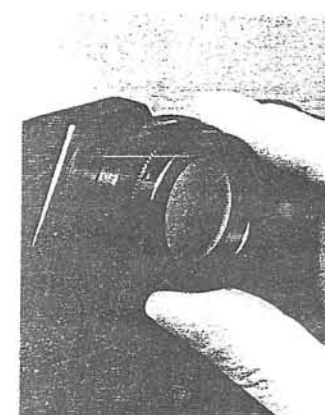

Fig. 32
2. Make diopter compensation. Cross hairs are seen through the viewfinder of the film camera. Turn the diopter compensation ring on the film camera until the cross hairs are most clearly visible. The compensation range is from -4 to +2 Dptr. (Figs. 32, 33)